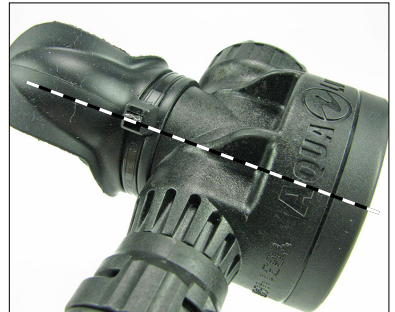

Figure 21
4. Install a new black clamp with the clamp tab positioned in-line with the center of the right bite-tab on the mouthpiece. Since the mouthpiece is of a lower profile design than standard SCUBA-style mouthpieces the clamp tab should be orientated in this manner so that the clamp tab does not interfere with the users lips (*Fig. 21*).